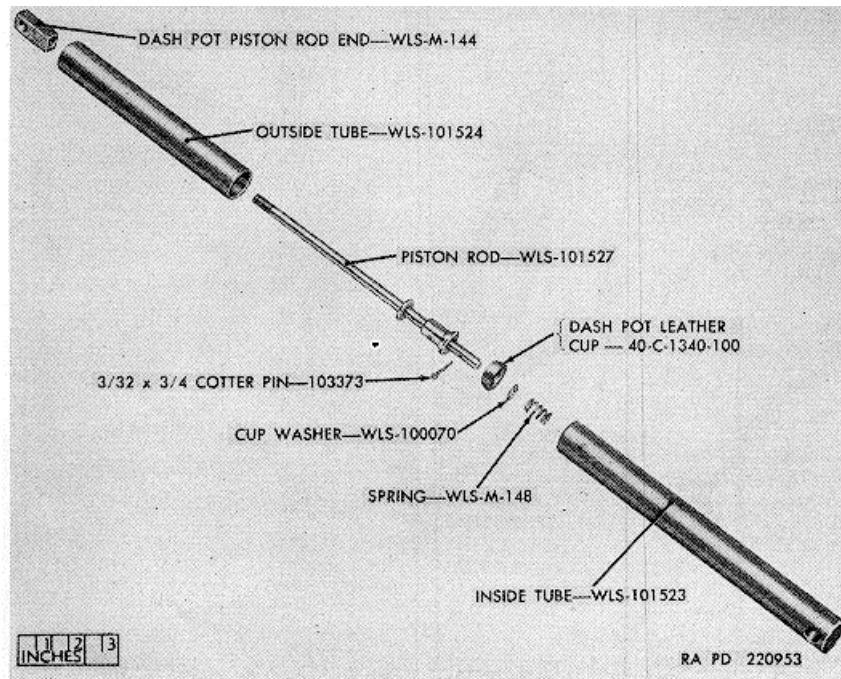

Figure 40. Dash pot assembly-exploded view.
**68. Disassembly** (fig. 40)
**70. Assembly (fig. 40)**